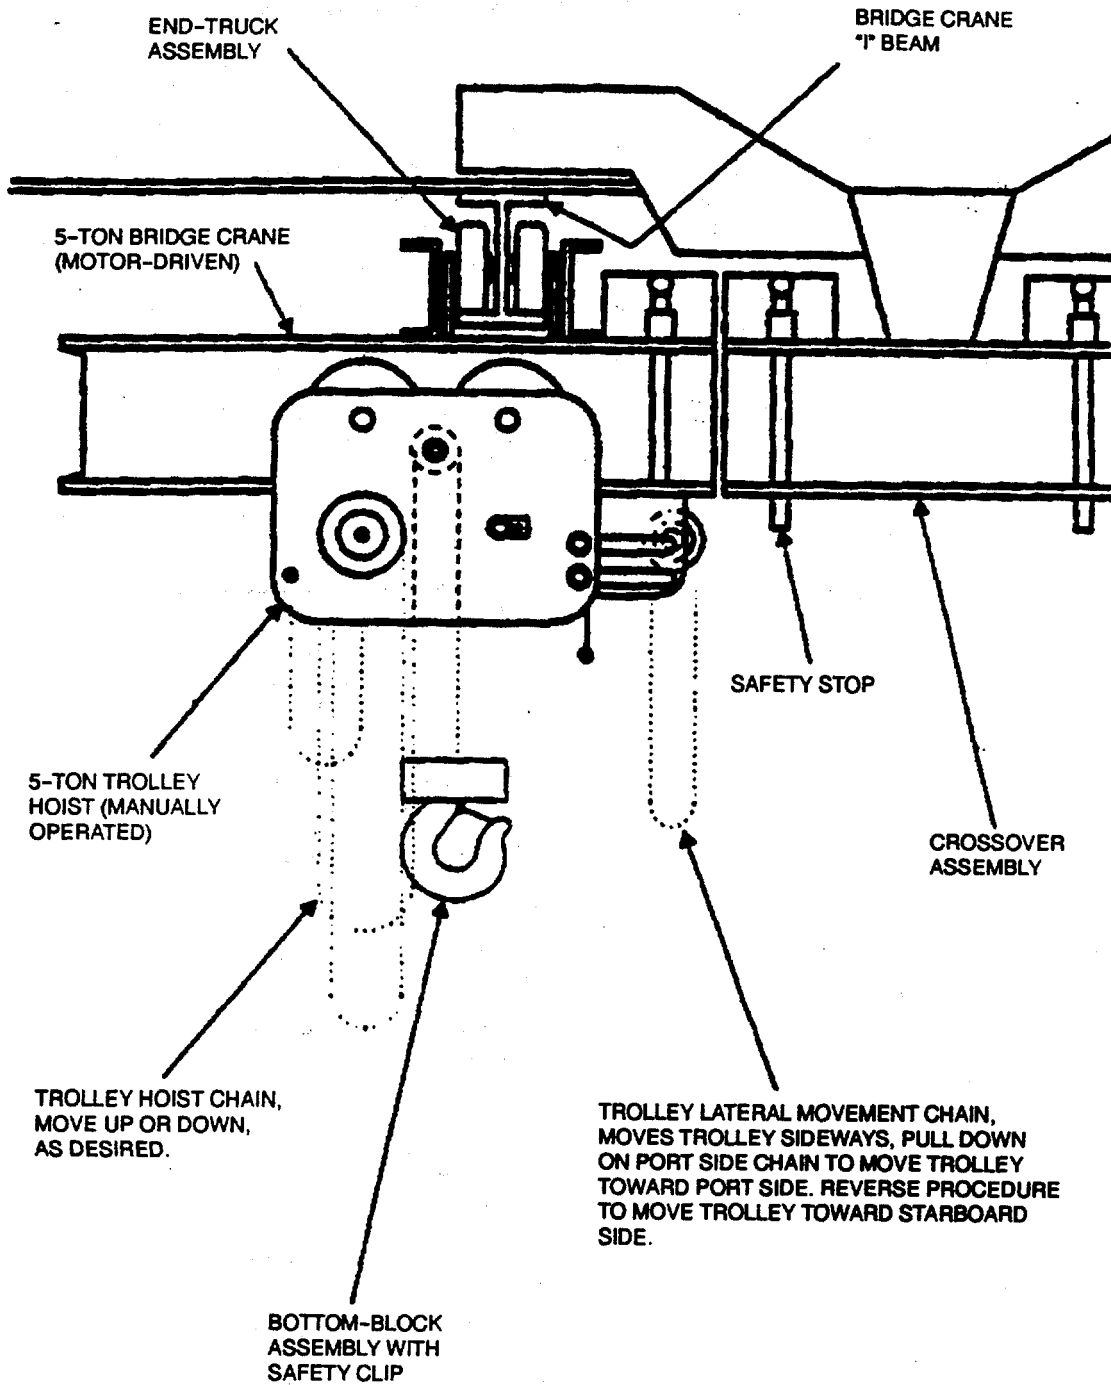

Figure 13-1. Bridge Crane
**13-3.1 Bridge crane system.** The bridge crane system, in the ROWPU space, lifts and transports heavy equipment and materials, such as diesel generators and 55-gallon drums. The bridge crane is also used for loading and unloading equipment and materials through the deckhouse starboard sliding door. Bridge crane major components (Figure 13-1) include: two 5-ton capacity, motor-driven, overhead cranes with end truck assemblies; a manual, chain-operated, geared trolley hoist; a cable reel located midway each system and an "I" beam rail system. The "I" beam rail system, over which the cranes move, is suspended from the deckhouse structure by a series of support posts. Two crossover members located between the port and starboard bridge cranes provide for transfer of the geared trolley hoist. A four-button, hand-held electrical control is used for controlling fore and aft crane movement. Electric power is provided to the crane through a cable that is extended or retracted by the cable reel as the crane moves forward or aft. Additionally, a 2-ton electric hoist provides for lifting lighter loads. A jib rail provides a method for moving suspended loads through the barge sliding door. The bridge crane system installation is shown on drawings listed in Appendix A.